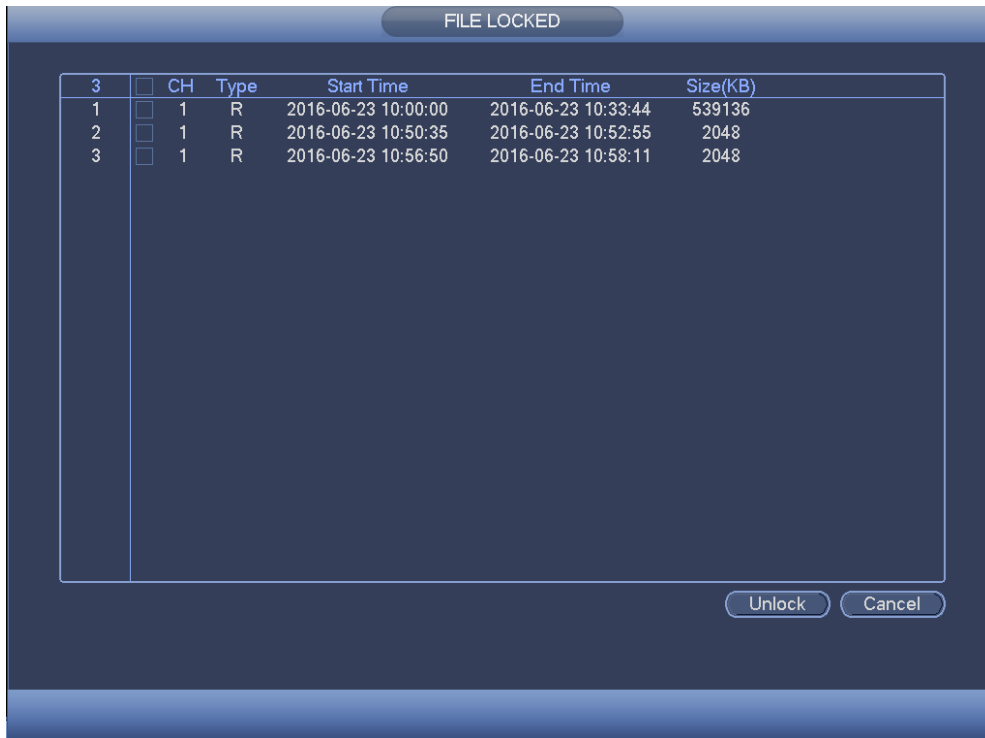

Figure 4-113
- Click  you can view the locked file. See Figure 4-113.